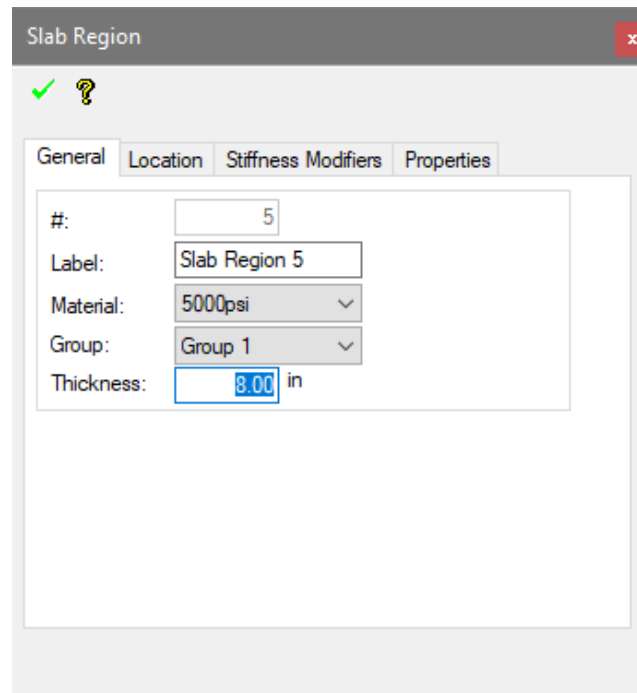

Figure 8-3
- Click *OK* to make the modification and close the window. If we bring up the properties now, on any slab region, we should see the material property set to 5000psi as shown in **FIGURE 8-3**.